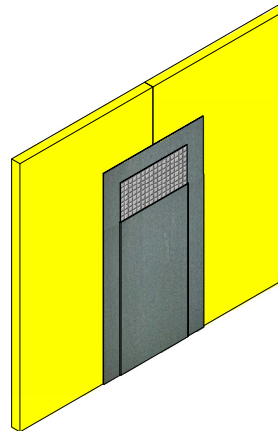

Figure 3
3. Apply additional Finestop RA/RS/VB onto the Sheathing Fabric to embed. (See Figure 3)